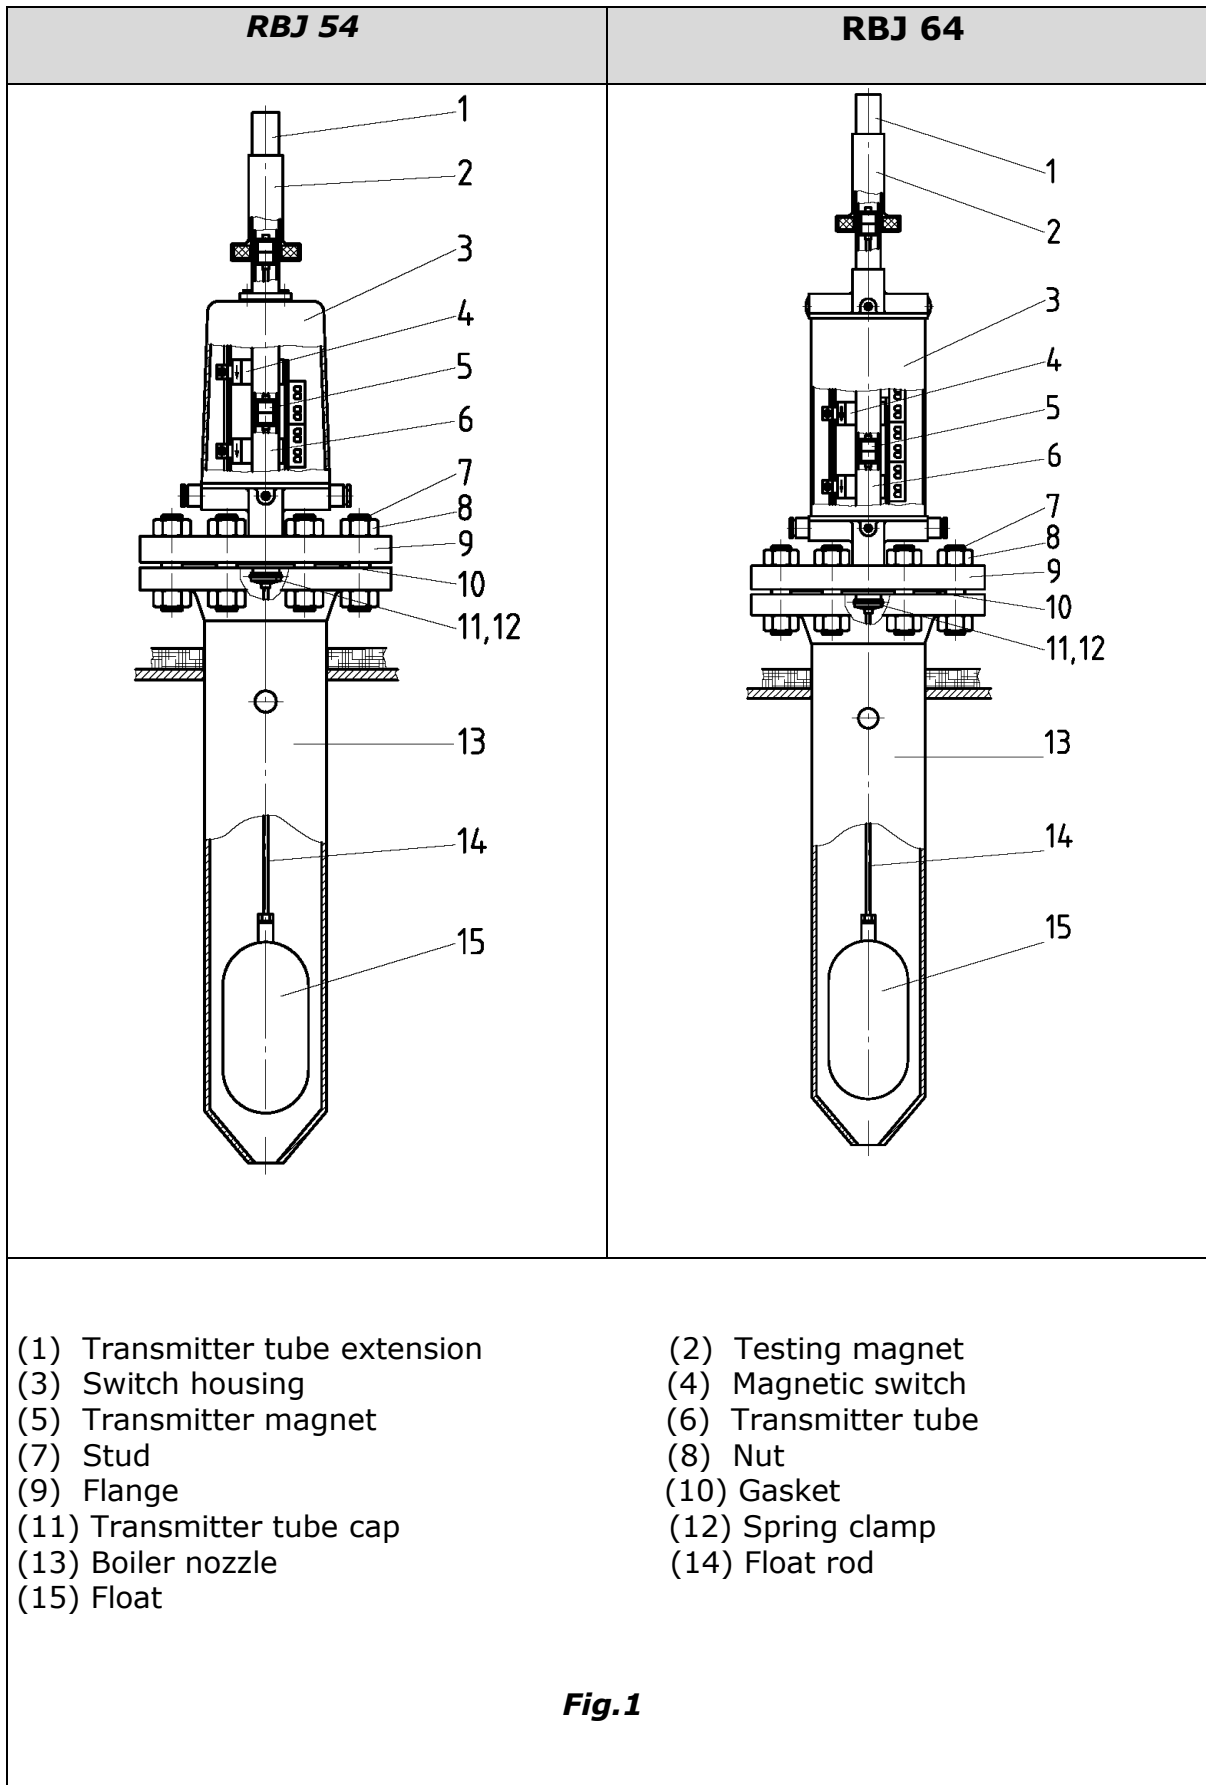

Fig.1
- Slowly push down testing magnet (2) over transmitter tube extension (1) protruding of switch housing (3).
Remove testing magnet (Fig.1, pos.2) after functional test. Otherwise the instrument continuously announces a water shortage.
Check state of the unit during boiler revision, especially float device (Fig.1, pos. 14,15).